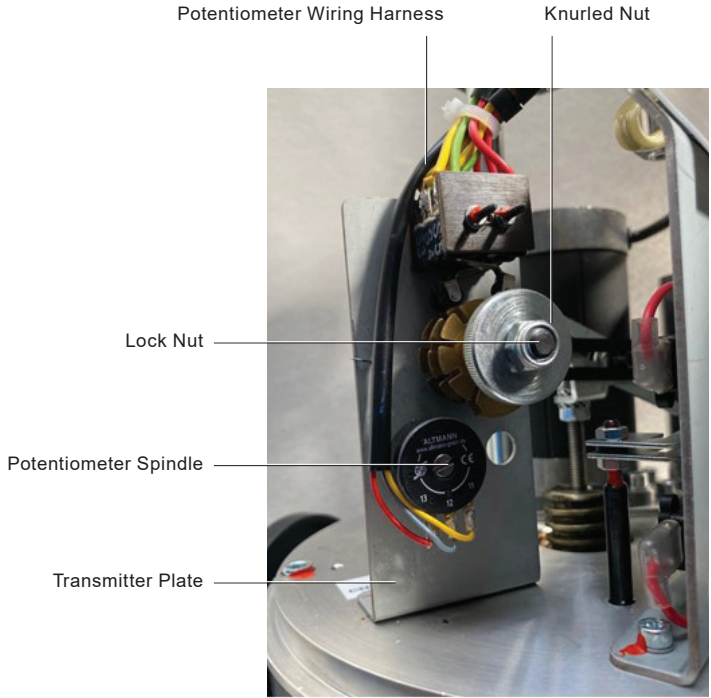

Fig. 12 Potentiometer Installation and Adjustment (8kN+)
- Refer to Fig. 12 Potentiometer Installation and Adjustment (8 kN+) (1798 lbf+) for product orientation